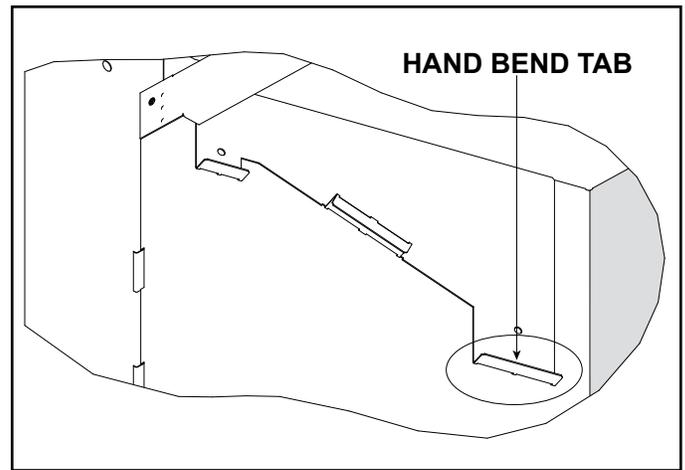
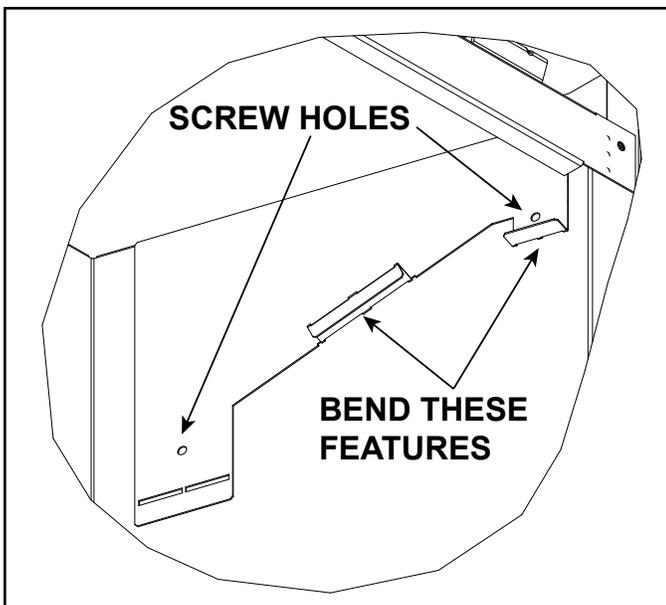

Figure 8. Upper Glass Brackets Installed (Left Upper Bracket Shown)
Figure 7. Bend Upper Glass Brackets (Upper Right Bracket Shown)
8. Locate the two upper glass brackets that are shipped flat. Bend the "Right" bracket as shown in Figure 7. Bend the "Left" bracket shown in Figure 8.
9. Install right upper glass bracket by pushing the bracket "up" to the firebox top and "out" to the front face of the firebox. The front edge of the bracket should be tight to the firebox face and the top edge of the bracket should be tight to the firebox top. Install the bracket by inserting the two self-tapping screws through the bracket into the firebox. See Figure 7. Repeat step 9 for left upper glass bracket installation.
350X-AU, 550X-AU: The right and left upper glass brackets will slide up to the top of the firebox between the firebox side and the edge of the top heat shield. Figures 7 and 8 are shown without an upper heat shield.
11. With one hand on the rear glass panel, bend "up" one hand bend tab on the upper glass bracket to approximately 90 degrees. See Figure 8. Once the hand bend tab is properly bent, the glass panel will not tip forward. Bend "up" the hand bend tab on the opposing bracket. The rear glass panel is now installed. This panel will be held in place by the side panels once they are installed.